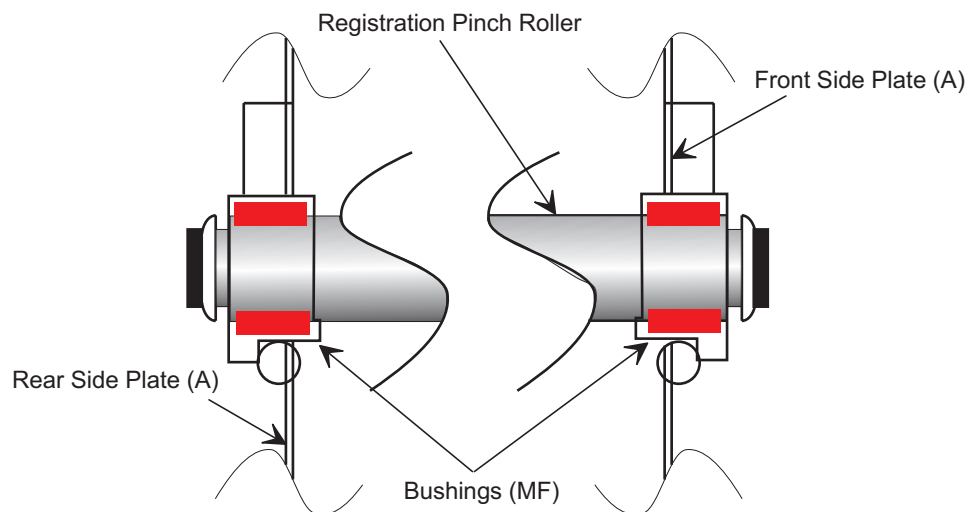

Figure 6-23. Lubricating Point (14)
Points: Sliding parts for the bushings (MF) and the registration pinch roller (Colored areas in Figure 6-23)